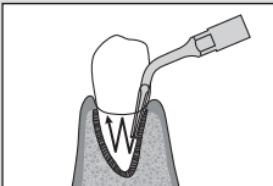

Fig. 3
- Move not only in the mesiodistal and buccolingual directions but also up and down as if delivering water to the apex (light pumping action). At that time, pay attention to the reaches of water injection (Fig. 3).